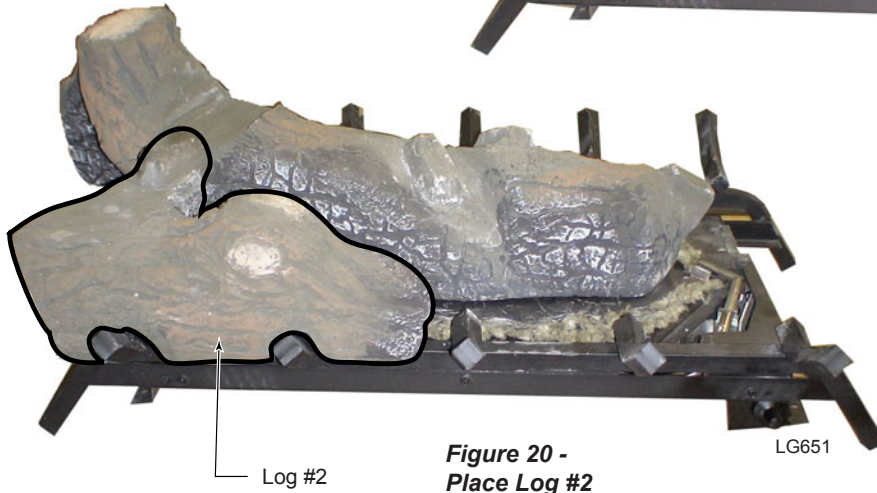

Figure 20 - Place Log #2
2. Place log #2 on left grate tines by aligning the 'V' notches in the log with grate tines. The groove on the bottom of the log should be firmly seated on the grate bar. *Figure 20*